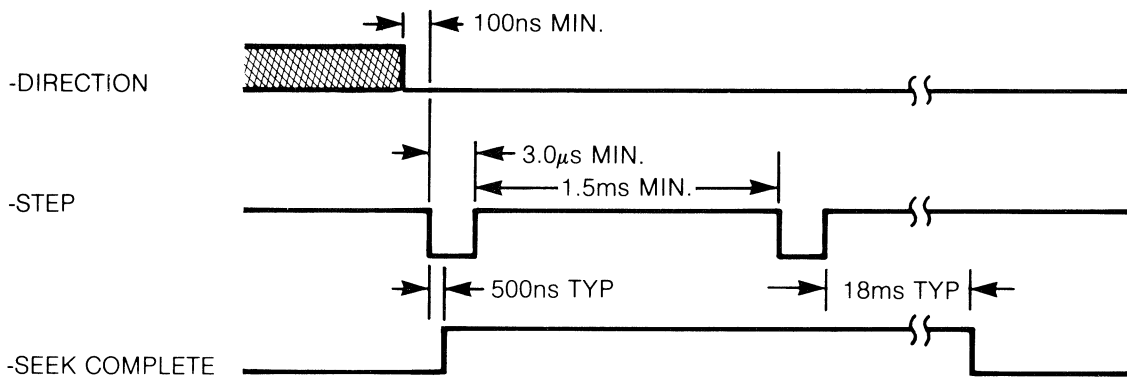

Figure 5 Normal Step Mode
- Normal Step Mode- In this mode, the read/write heads will move at the rate of the incoming step pulses. The minimum time between successive steps is 1.5ms, with a minimum pulse width of 3.0µs. Refer to Figure 5.